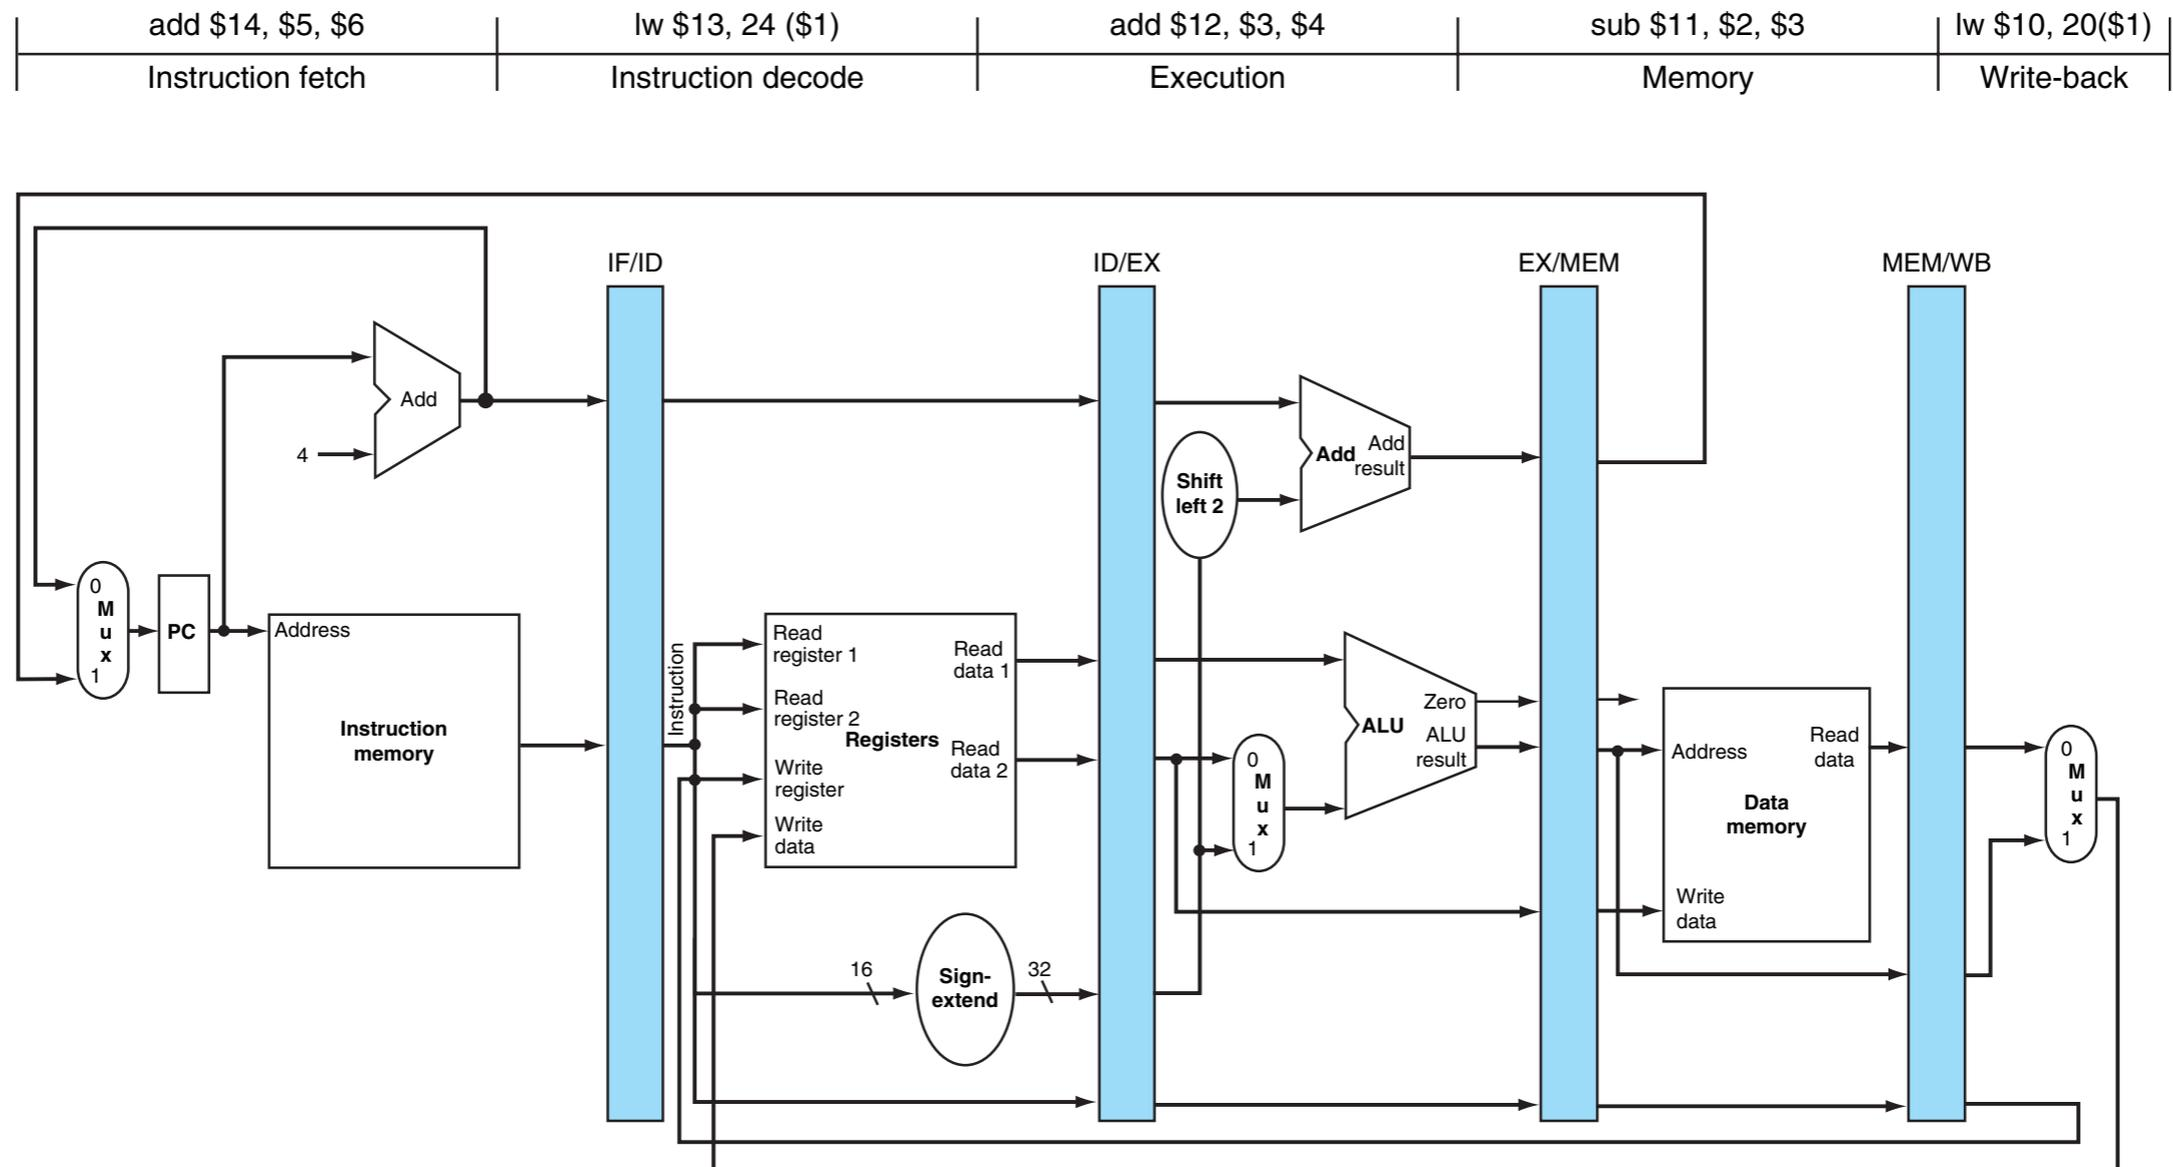

**FIGURE 4.44** Traditional multiple-clock-cycle pipeline diagram of five instructions in Figure 4.43. Copyright © 2009 Elsevier, Inc. All rights reserved.
**FIGURE 4.43 Multiple-clock-cycle pipeline diagram of five instructions.** This style of pipeline representation shows the complete execution of instructions in a single figure. Instructions are listed in instruction execution order from top to bottom, and clock cycles move from left to right. Unlike Figure 4.28, here we show the pipeline registers between each stage. Figure 4.44 shows the traditional way to draw this diagram. Copyright © 2009 Elsevier, Inc. All rights reserved.